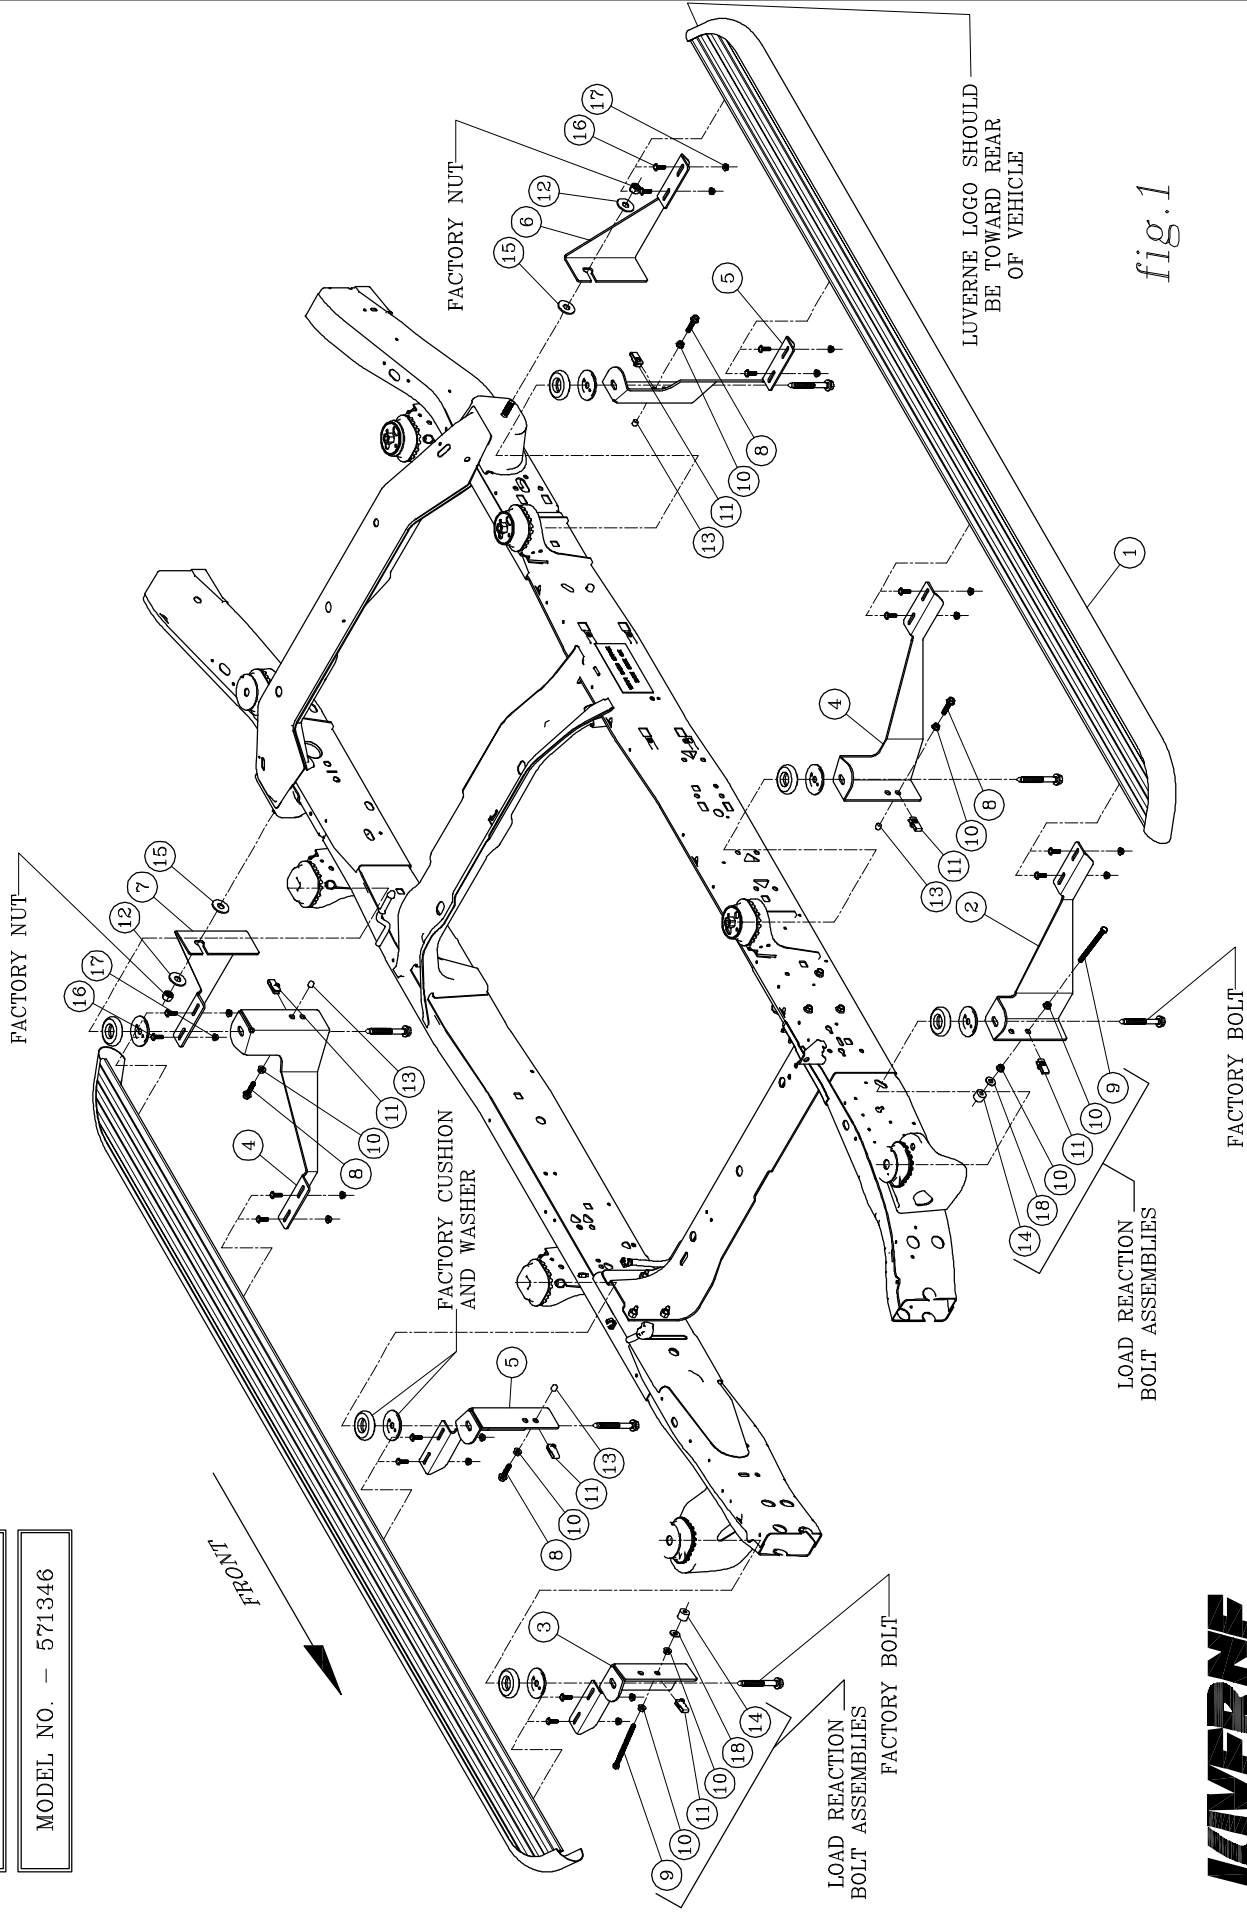

fig. 1
3. BEFORE ATTACHING THE O-MEGA STEPS TO THE BRACKETS, PLACE THE STEP PADS (ITEM #2) ON TOP OF THE STEP PLATES. USE THE TABLE ON SHEET #2, AS A GUIDE TO POSITION THE STEP PAD FOR YOUR PARTICULAR VEHICLE. WHEN INSTALLING THE PADS ON THE STEPS, DRILL (5) 1/8" HOLE USING THE STEP PAD AS A GUIDE. ATTACH WITH (5) 8-18X1/2" TEK SCREWS (ITEM #6) PROVIDED. REPEAT FOR ALL STEP PADS. (NOTE: DUE TO THE SHORTNESS OF SOME BOXES, MOUNT THE BOX STEP PAD FIRST, APPROXIMATELY 1/2" FROM THE END CAP AND THEN MOUNT THE MIDDLE STEP PAD ACCORDINGLY.)
5. INSTALL THE END CAPS (ITEM #3) AS SHOWN IN *fig. 1*, TIGHTENING THE NUTS TO 5 LB FT.
4. INSTALL A 3/8"-16 SERRATED FLANGE NUT (ITEM #10) ON THE 3/8"-16 X 5" HEX BOLT (ITEM #9) WITH THE FLANGE FACING TOWARD THE END OF THE BOLT AND TURN ON JUST SHORT OF THE HEAD. SCREW THE BOLT INTO THE U-NUT AND WHEN IT COMES THROUGH THE OTHER SIDE START ANOTHER FLANGE NUT FACING THE AS THE FIRST NUT. TURN THE NUT ON UNTIL THERE IS 3/4" PROTRUDING FROM THE FACE OF THE NUT, INSTALL A 3/8" FLAT WASHER (ITEM #18) AND THE .354 X 1.00 X .748 RUBBER WASHER (ITEM #14) INTO THE END OF THE BOLT. ADJUST THE LOAD REACTION BOLT ASSEMBLY SO THAT THE RUBBER CUSHION IS SNUG AGAINST THE FRAME AND TIGHTEN DOWN THE OUTSIDE FLANGE NUT. (LOAD REACTION BOLT ASSEMBLY) AS SHOWN IN *fig. 1*.
8. INSTALL A 3/8"-16 SERRATED FLANGE NUT (ITEM #10) ON THE 3/8"-16 X 1-3/4" HEX BOLT (ITEM #8) WITH THE FLANGE FACING TOWARD THE END OF THE BOLT AND TURN ON JUST SHORT OF THE HEAD. SCREW THE BOLT INTO THE U-NUT AND WHEN IT COMES THROUGH THE OTHER SIDE ADJUST THE LOAD REACTION BOLT ASSEMBLY SO THAT THE RUBBER PLUG IS SNUG AGAINST THE FRAME AND TIGHTEN DOWN THE OUTSIDE FLANGE NUT. (LOAD REACTION BOLT ASSEMBLY) AS SHOWN IN *fig. 1*.